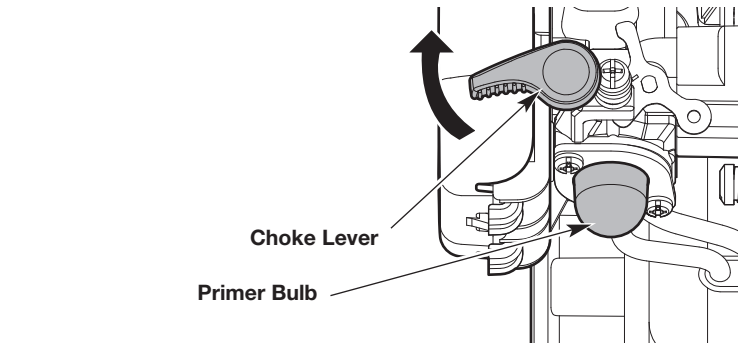

Fig. 9
1. Slowly press and release the primer bulb **10 times** (Fig. 9).
2. Flip the choke lever clockwise until it clicks (Fig. 9).